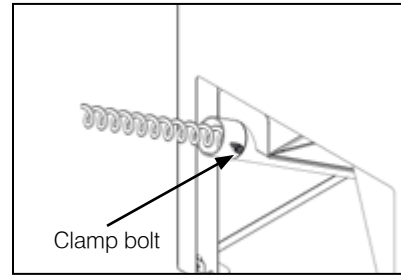

Figure 10-10: Location of auger pipe clamp bolt
- Slacken the clamp bolt on the auger pipe socket so that the auger extension pipe can be fitted. Refer to Figure 10-10 for location of auger pipe clamp bolt.